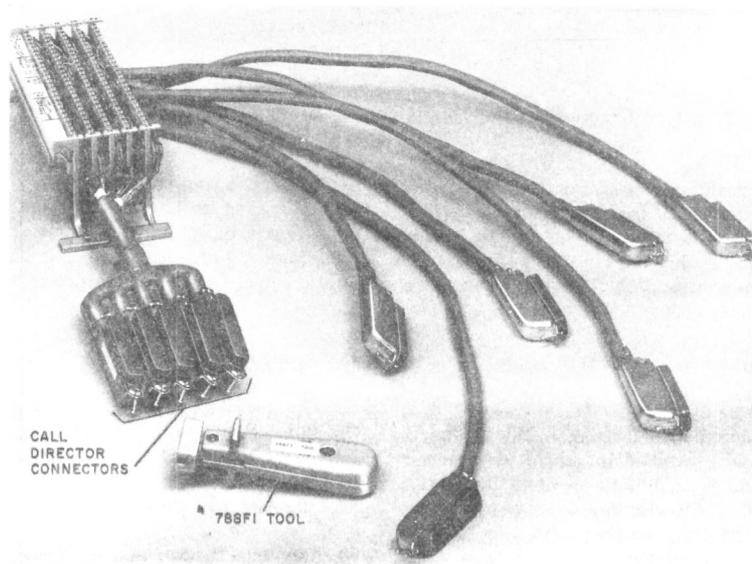
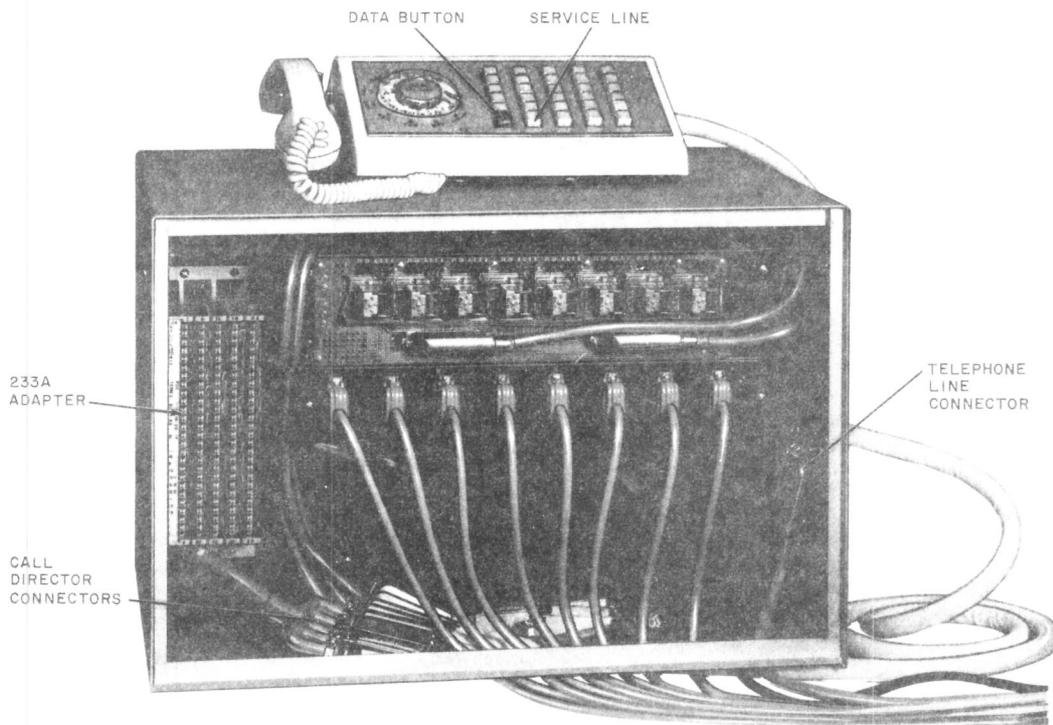

Fig. 5—233A Adapter
Fig. 6—2025 Data Station—Rear Cover Removed
**2.17** The 233A adapter shown in Fig. 5 provides the necessary cross-connections between a maximum of 24 telephone lines and 24 data sets, permitting a "plug together" installation. Figure 6 shows a rear view of a data station with one mounting installed (eight data sets). The adapter consists of an 88-type wiring block with seven stub connector cables attached. Three pairs of the cables may be plugged into the data mountings (two per mounting), and the remaining cable is plugged into a 631DA or 2631DA Call Director telephone (if used). The adapter may be used with fewer than the maximum of 24 data sets by using only the appropriate connectors. It may also be used with a maximum of 16 ACUs by using open